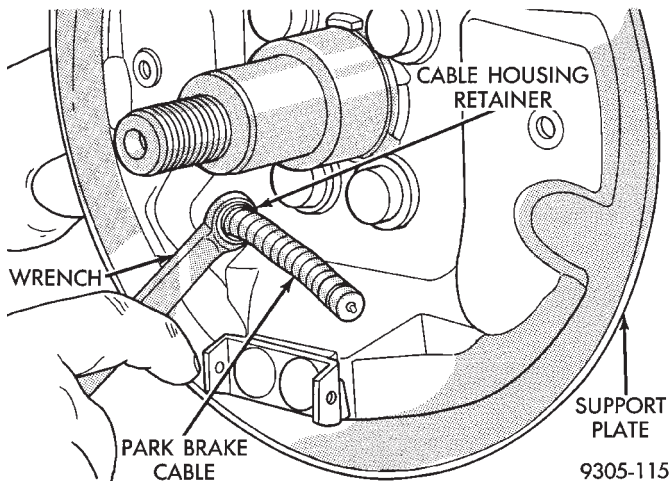

Fig. 2 Removing Park Brake Cable From Support Plate
(2) Position a 1/2 wrench over the retainer on the end of the parking brake cable (Fig. 2). Compress ca-
ble housing retaining fingers and start housing out of support plate (Fig. 2). Remove wrench when retainer is free from the park brake cable mounting hole in the rear brake support plate. Alternate method is to use a aircraft type hose clamp over housing end fitting compressing the three fingers.